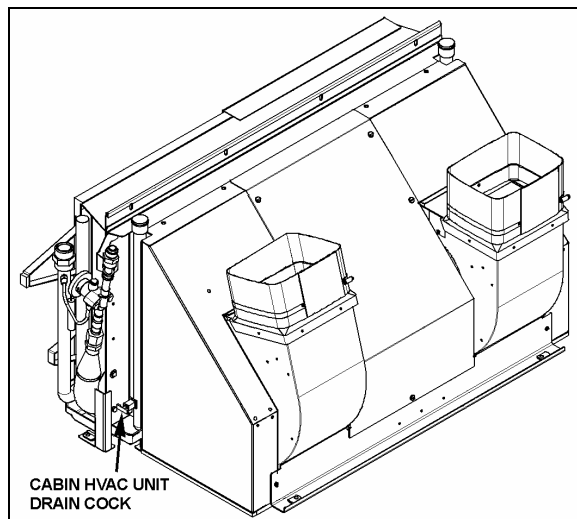

FIGURE 45: CABIN HVAC UNIT DRAIN COCK 22128
- d) Open drain cock in bottom of heater core, you can unfasten a hose connection on top of heater core (Fig. 45) in order to allow air to enter while draining.